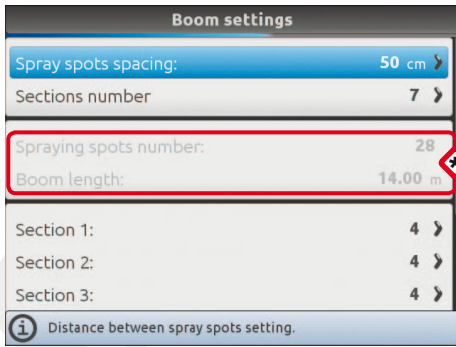

Fig. 70
⚠ Depending on the selected settings, the number of spraying points as well as the value of the boom width, displayed in Fig. 70, will change.
- Repeat the setup for each section (Fig. 70).